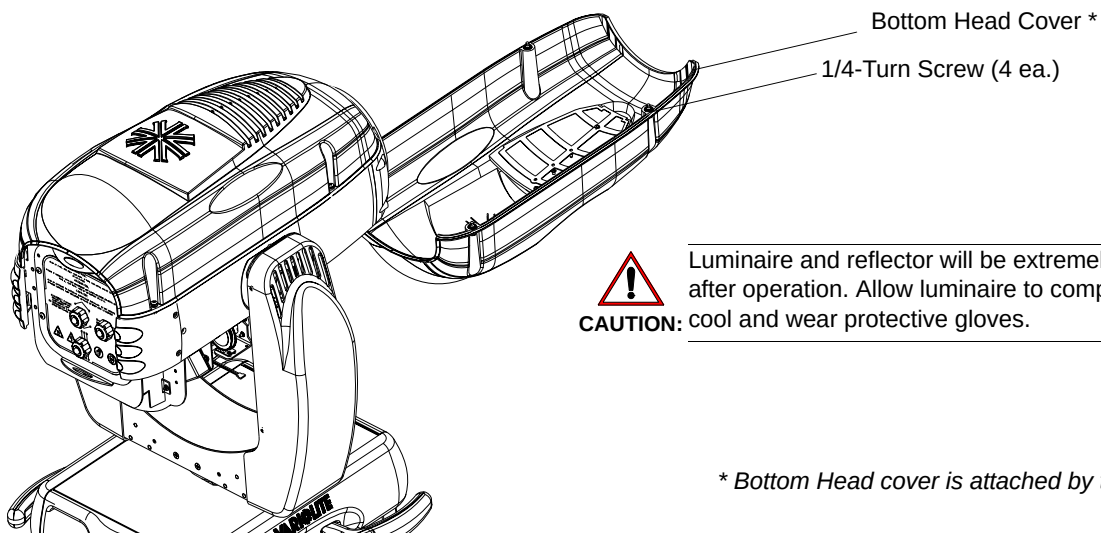

Figure 2-3: Bottom Head Cover Removal
- Step 4. Remove bottom head cover by loosening four 1/4-turn screws as shown in Figure 2-3.